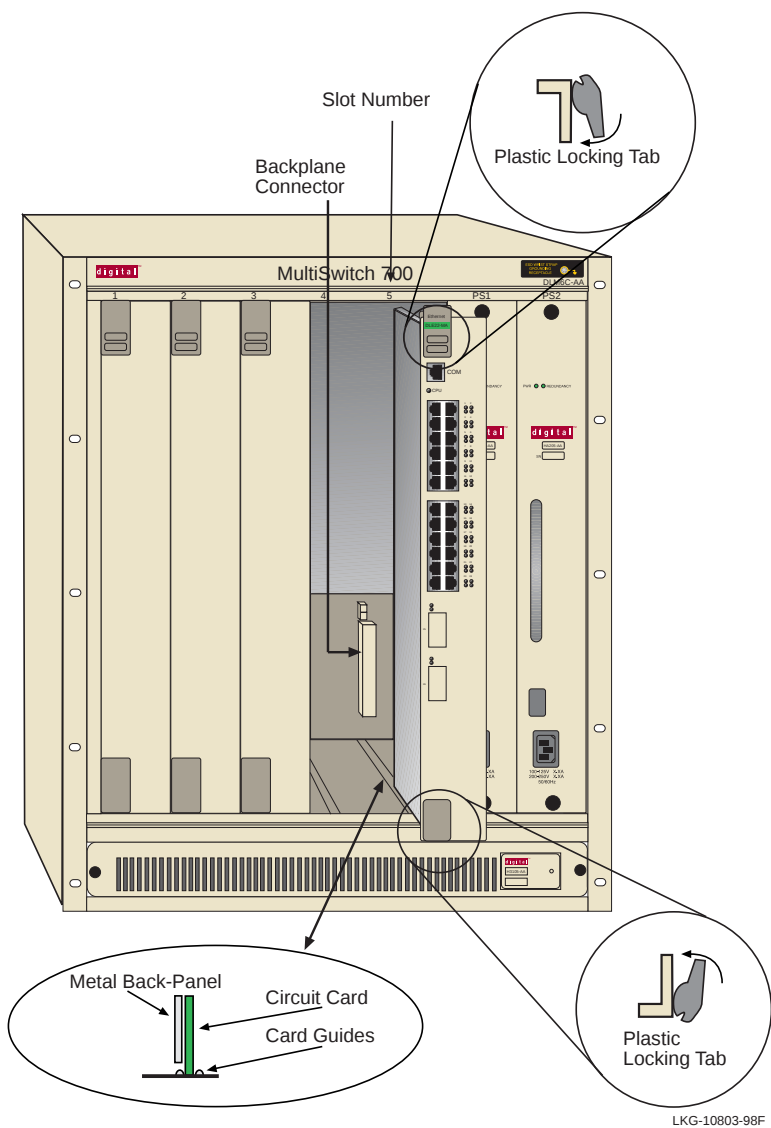

Figure 3-5 Installing a Module
In the following step ensure that the top plastic locking tab lines up with the desired slot number located on the front panel of the chassis. Refer to Figure 3-5.
6. Locate the slot guides that line up with the number of the slot in which the module will be installed. Install the interface module in the chassis by aligning the module circuit card between the upper and lower metal rail guides of the desired slot, sliding it into the chassis, and locking down the top and bottom plastic locking tabs, as shown in Figure 3-5. Take care that the interface module slides in straight and properly engages the backplane connectors.